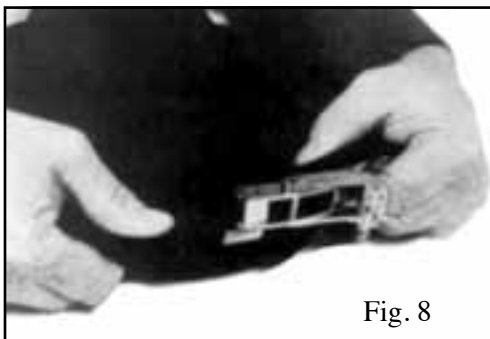

Fig. 8
While pulling apart, press down on the block end of the neck clamp and up on the lever end. (Fig.8) The base of the lever mount stops the lower track at the end and a jog in the pull apart motion is necessary.
The Neck Dam Assembly is retained on the Helmet at three (3) locations; (Fig 8) the Rear Alignment Sleeve and two Helmet "front ears". The Rear Hinge Tab straddles the Rear Alignment Sleeve, mounted on the Rear Weight, as the Neck Clamp & Dam assembly is pushed over and past the Helmet ears. The Neck Clamp must be open enough to clear the Helmet ears. The Neck Clamp must travel beyond the thickness of the Helmet ears before clamping around the Helmet and sealing against the O-Ring Seal. The Neck Clamp should be adjusted so that the Neck Dam seals against the O-Ring Seal with **NO VISIBLE GAP** between the Neck Dam and the Helmet after clamping. If time permits, clamp the Neck Dam Assembly to the Helmet and let set for a 24 hour period; after which, remove the assembly, put it back on and check the clamping adjustment. If the Helmet is to be used immediately, the clamping and sealing action **MUST** be checked for readjustment after 24 hours. This adjustment should be checked prior to each dive.